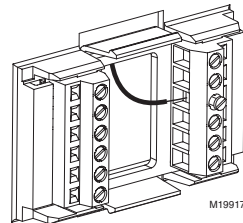

Fig. 4. Inserting wires in terminal block.
2. Loosen the screws for the appropriate system type selected; see Table 2. Insert wires in the terminal block under the loosened screw. See Fig. 4.